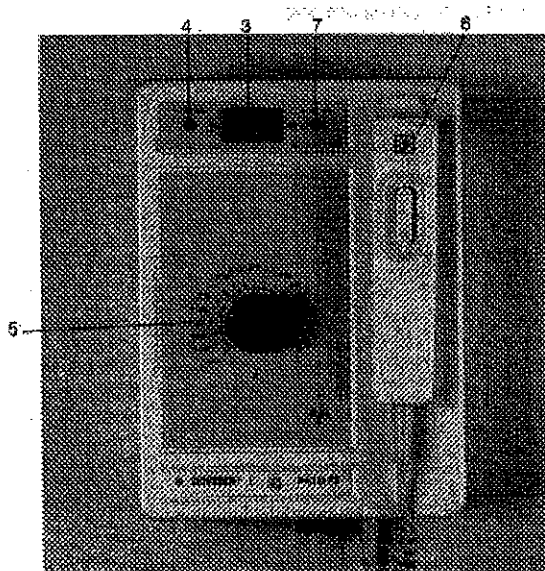

Fig. 2
This is an extremely user friendly, basic Intraoral X-ray timer, designed for long-life and minimal maintenance. A large rocker switch 3 (fig. 2) at the top of the timer is provided to control the mains power, it is provided with a green "power on" L.E.D. Indicator 4 (fig. 2).
A single large dial 5 (fig. 2) is provided to allow adjustment of individual exposure times, 0.05 s to 3.2 s in 19 increments. This allows the system to accommodate many film, processing, and exposure requirements. The SECONDENT E timer compensates automatically for mains fluctuations.
4. Grasp the exposure switch 6 (fig. 2) and move to a position as far removed from the patient as possible.
5. Apply pressure to the handswitch pushbutton. The exposure visual 7 (fig. 2) and aural indicators will alert you to X-Ray emission. REMEMBER, the handswitch must be held till the alert indicators cease.